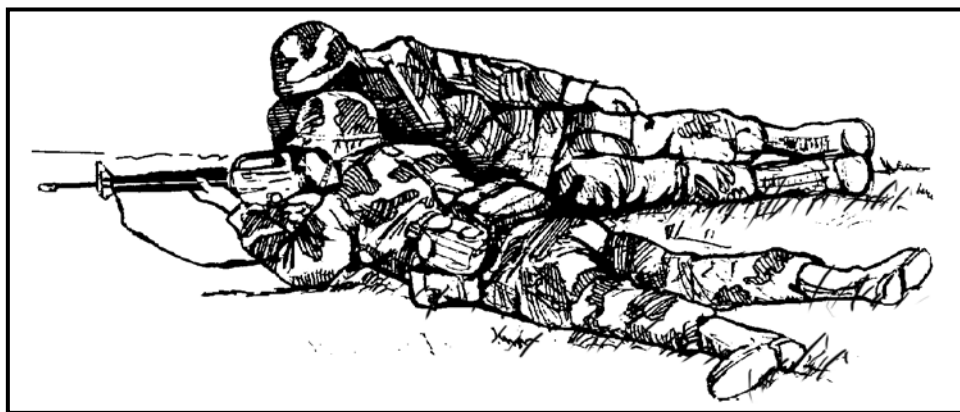

Figure 4-13. Prone position of coach (right-handed firer).
(1) During an exercise, the coach should be positioned where he can best observe the firer when he assumes position. He then moves to various points around the firer (sides and rear) to check the correctness of the firer's position. The coach requires the firer to make adjustments until the firer obtains a correct position.
(2) When the coach is satisfied with the firing position, he assumes a coaching position alongside the firer. The coach usually assumes a position like that of the firer (Figure 4-13), which is on the firing side of the firer.